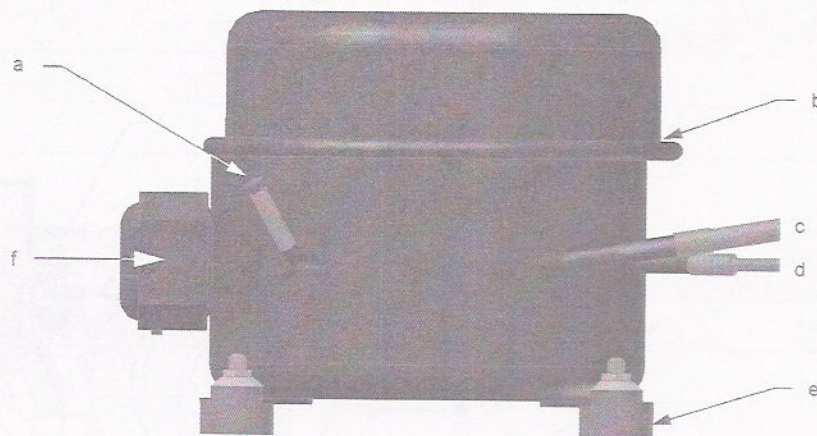

Figure 3-8. Parts of hermetic compressor.
5. List each part on the hermetic compressor in Figure 3-8.